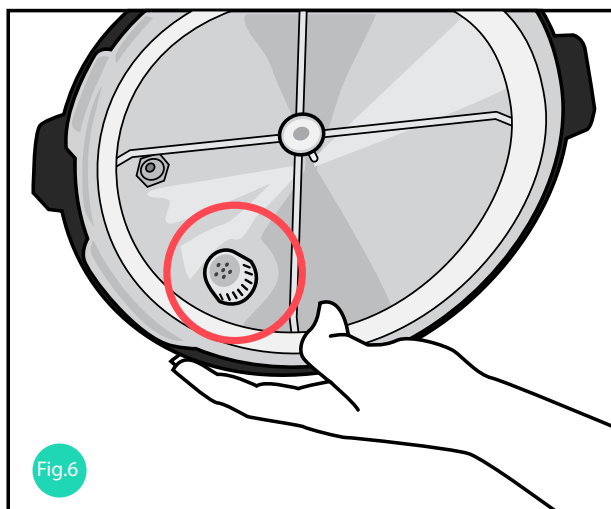

Fig.6
10. If needed, pop the interior cover for the Filter open and clean any food particles from it (See Fig. 6). Use a small brush, if desired. Dry well and replace.